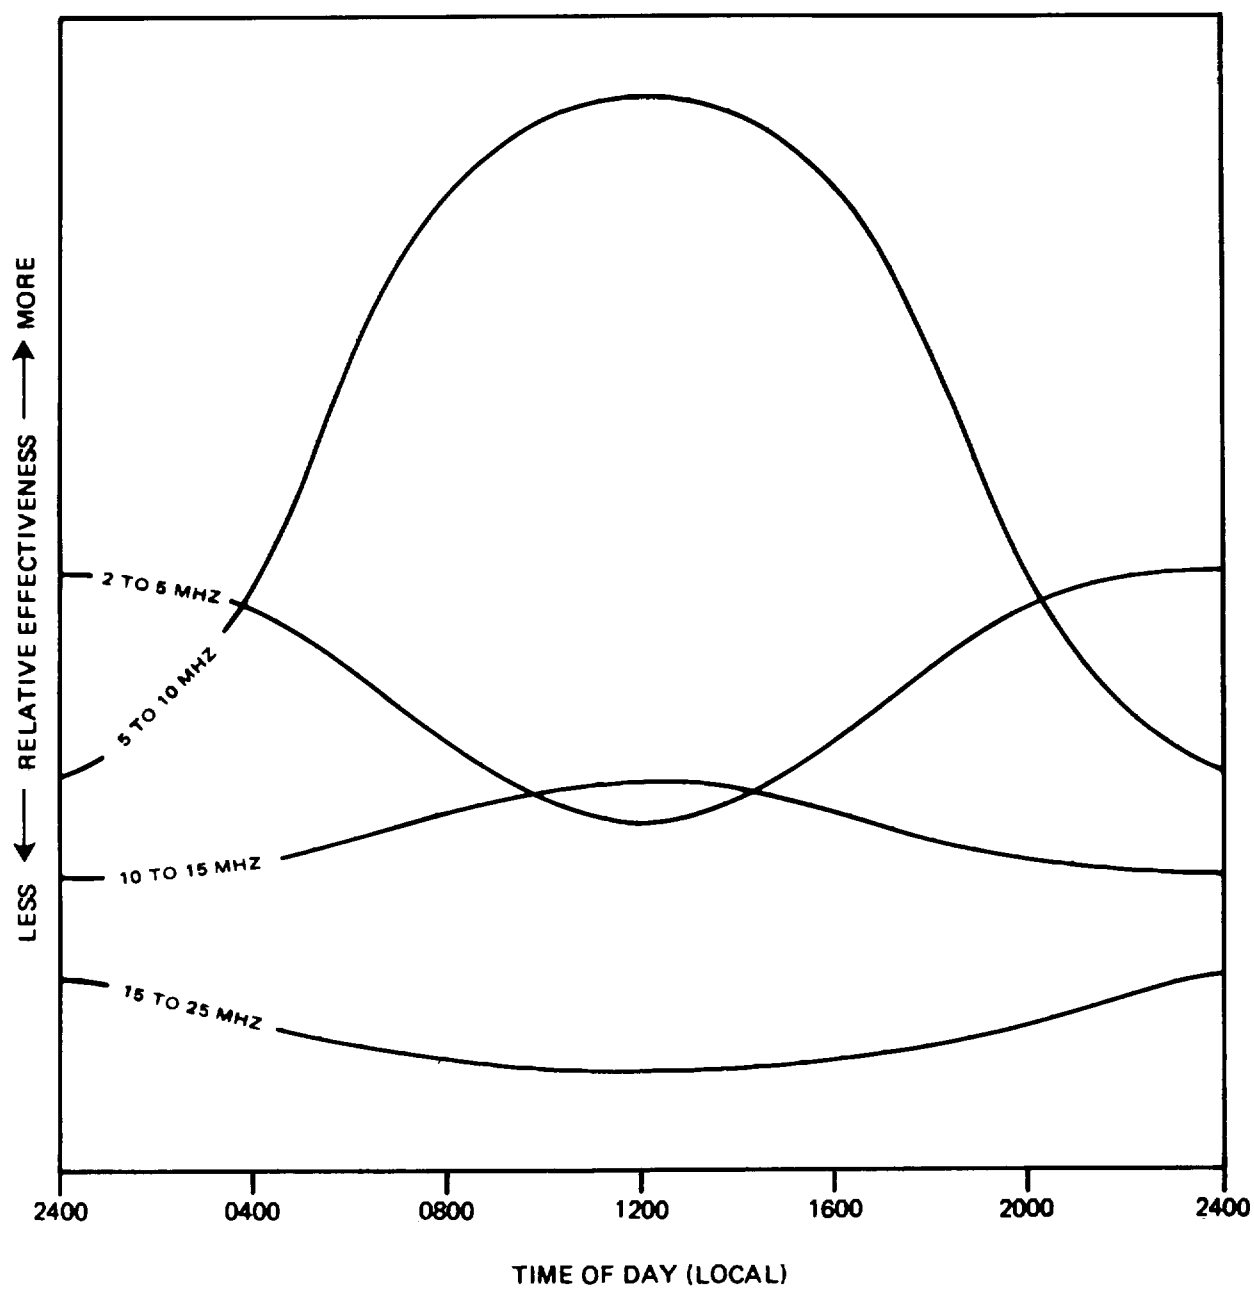

Figure A2-4. Short Range (Less Than 100 Miles) HF Communications Effectiveness
**A2-12. HF BAND SEGMENTS.** The following is a breakdown of the hf band and a general description of the behavior of each segment. There will be exceptions but the descriptions will hold true in most cases. Figures A2-4 and A2-5 show relative